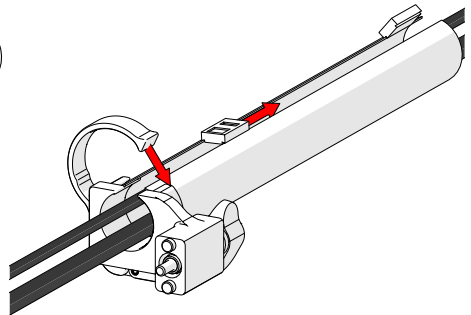

Fig. 261 - Zip to close
2. Follow the cable placement zipping the tube closed (Fig. 261).